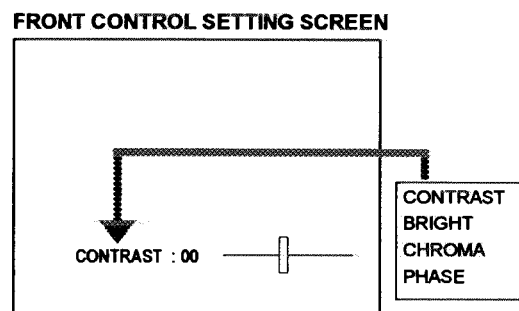

Fig.5
- 1) Press the front panel button (CONTRAST, BRIGHT, CHROMA, PHASE). THE FRONT CONTROL SETTING screen Fig.5 will be displayed.